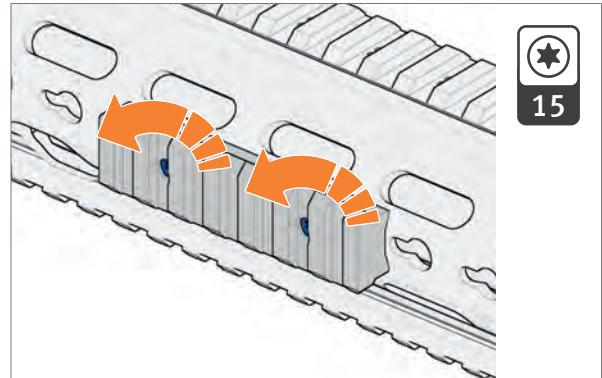

Fig. 46: Loosen screws for Picatinny rail
3. Loosen screws for Picatinny rail by turning anti-clockwise with torque wrench (Fig. 46).